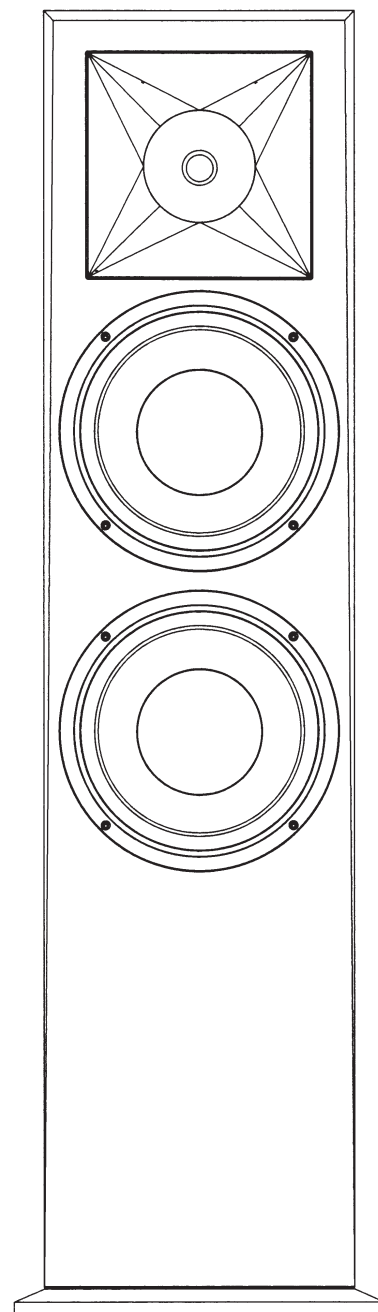

**Figure 5**
Floorstanding models are supplied with a plinth and four screws (See Figure 2), self-stick rubber feet to prevent surface damage (See Figure 5) and foot spikes to enhance performance on carpeted floors (See Figure 2).
These models are supplied with self-stick rubber feet to prevent surface damage. (See Figure 5 for proper application.)
- Use the supplied self-stick rubber pads to prevent surface damage (See Figure 5).